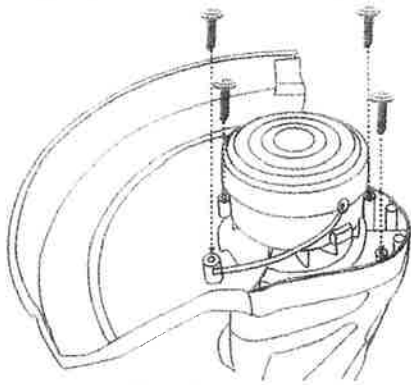

Fig.2
- Insert the safety guard (10) onto the motor housing and fix it with 4 screws.(Fig.2)